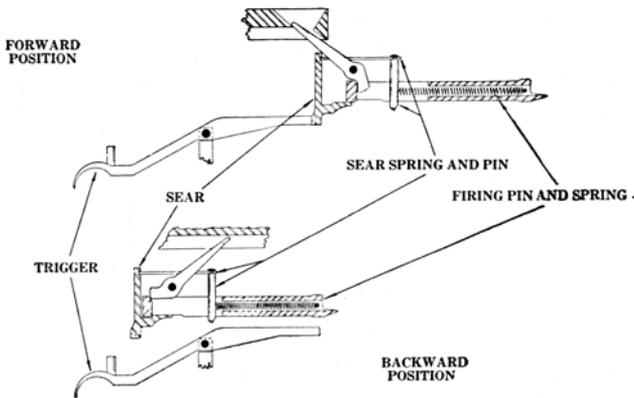

FIGURE 13. Cocking mechanism.
■33. COCKING ACTION (fig. 13).—AS the bolt moves backward, the upper end of the cocking lever is forced forward in the cocking lever recess, bringing the lower end to the rear. The lower end brings with it the firing pin, thus compressing the firing pin spring against the sear spring.